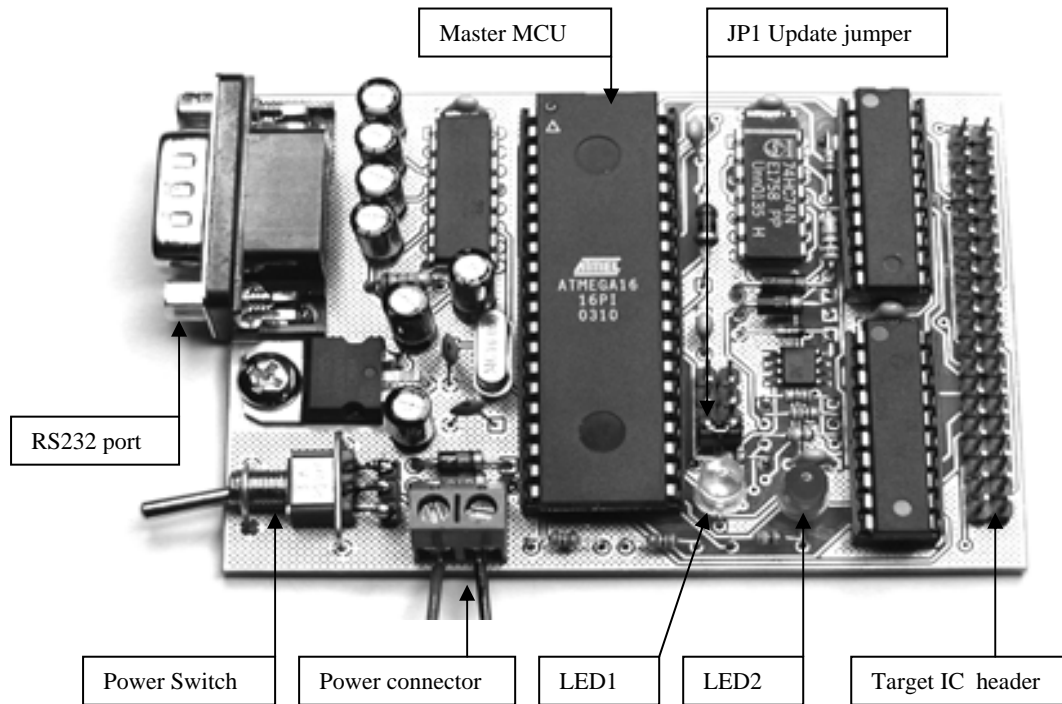

Figure 1. TMS370 EEPROM PROGRAMMER components
The TMS370 Programmer is designed to accept TMS370 8-bit MCU EEPROM data memory. The TMS370 Programmer support Divide/1 and Divide/4 rate IC's (See Appendix, Clock options). To understand TMS370 Programmer components meaning see Figure 1. To install and use the TMS370 Programmer, follow these steps:
- Remove JP1 update jumper (see Figure 1)